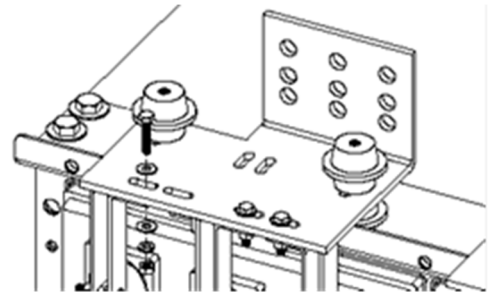

FIGURE 11
3. Install inter-cell connectors and torque to 85 in-lbs as shown in Figure 11 and 11a.